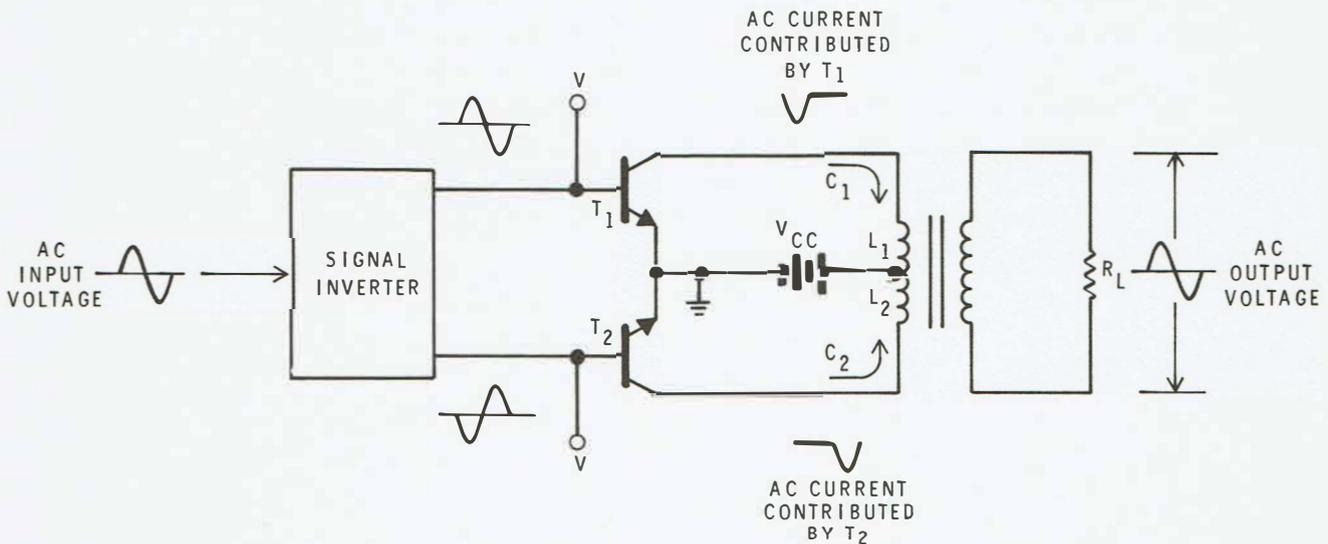

Figure 5-22
A simplified push-pull arrangement is illustrated in Figure 5-22. Here, note that the circuit consists of three sections — a signal inverter, followed by two transistors connected in a push-pull configuration, and a center-tapped output transformer. Briefly, the operation of the circuit in Figure 5-22 may be described as follows:
2. Each output of the signal inverter is used to drive one of the two push-pull transistors. In Figure 5-22, each transistor is biased at cutoff by the DC supply voltage, V .
4. During the negative half-cycle of the AC input voltage, the action described in step 3 is reversed. Thus, T_2 conducts and T_1 remains cut off. In this case, current i_2 flows through the L_2 section of the transformer. As shown in Figure 5-22, the currents i_1 and i_2 flow through L_1 and L_2 respectively in **opposite directions**. For this reason, the polarity of the output voltage is positive on one half-cycle and negative on the other half-cycle. In effect, each transistor supplies one half of the AC output voltage.